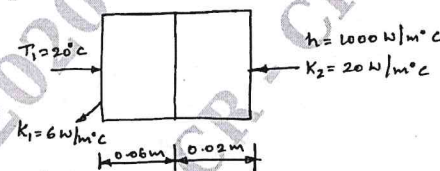

Fig.Q7(b)
b. Determine the temperature distribution through the composite wall subjected to convection heat loss on the right side surface with convective heat transfer co-efficient as shown in Fig.Q7(b). The ambient temperature is  $-5^\circ\text{C}$ .